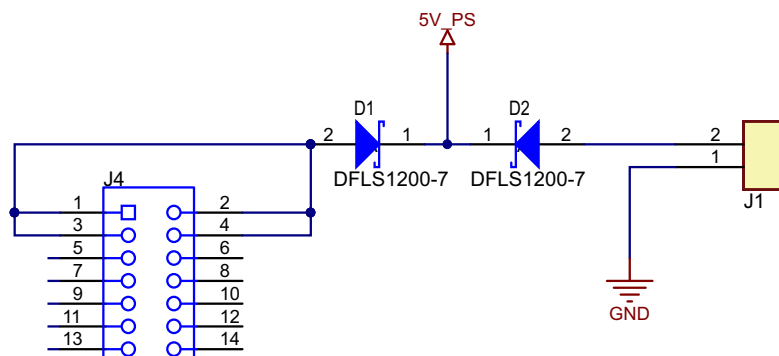

Figure 11. 5-V Input Supply Connection
2. By using 5 V from controller board on a 50-terminal MII connector as shown in Figure 11